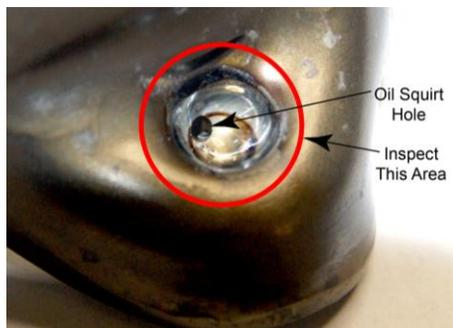

Figure 1
3. Use a 10X power magnifying glass to inspect the pushrod socket and the outside of the rocker arm for cracks around the oil squirt hole (Figures 1 and 2).